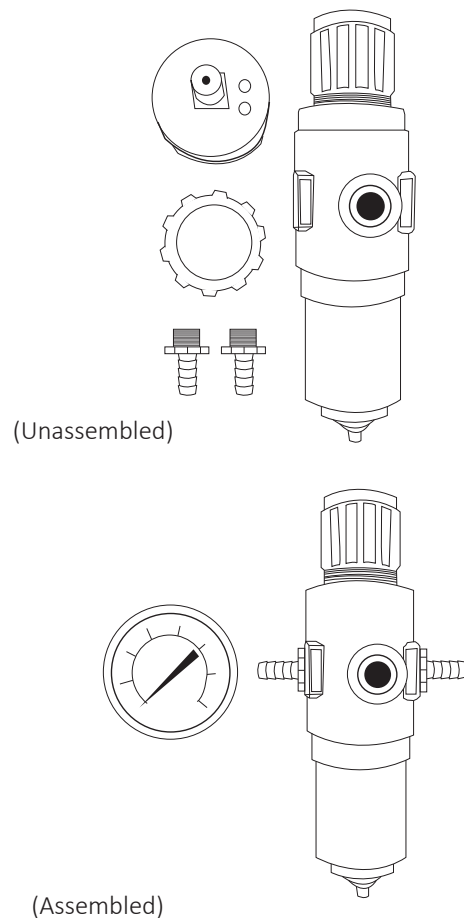

Figure 3.2:
- Install the argon torch according to the Figure 3.2.